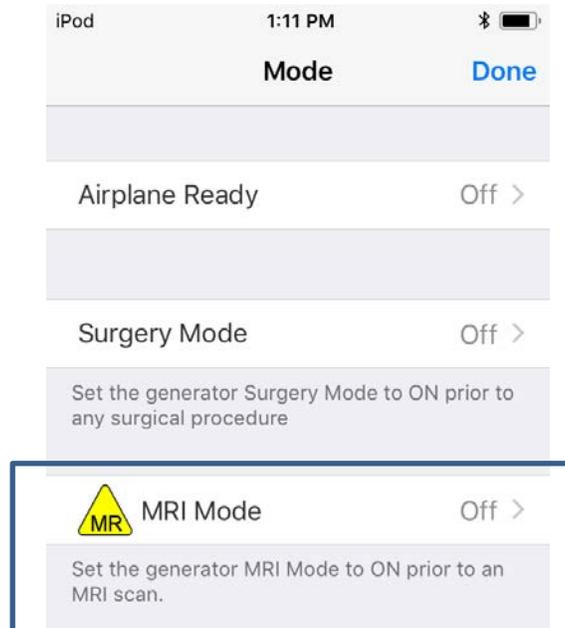

Figure 2: Patient Controller MRI Mode Status Indicator
Figure 2 shows where MRI Mode is found on the Patient Controller (PC) within the MODE screen. In the default state, MRI Mode is not enabled, which is displayed below. Enabling MRI Mode is not recommended until the one-time update to restore impedance check functionality is available, as this action will initiate an impedance check which may result in uncomfortable stimulation.